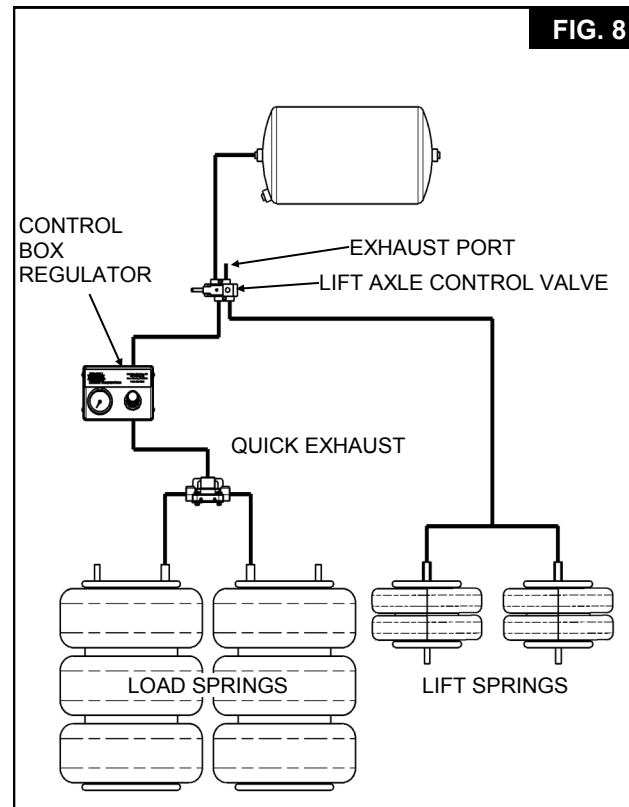

FIG. 8
11.1 Connect the load springs and lift springs to the air control system (see Fig. 8 for a typical configuration example).